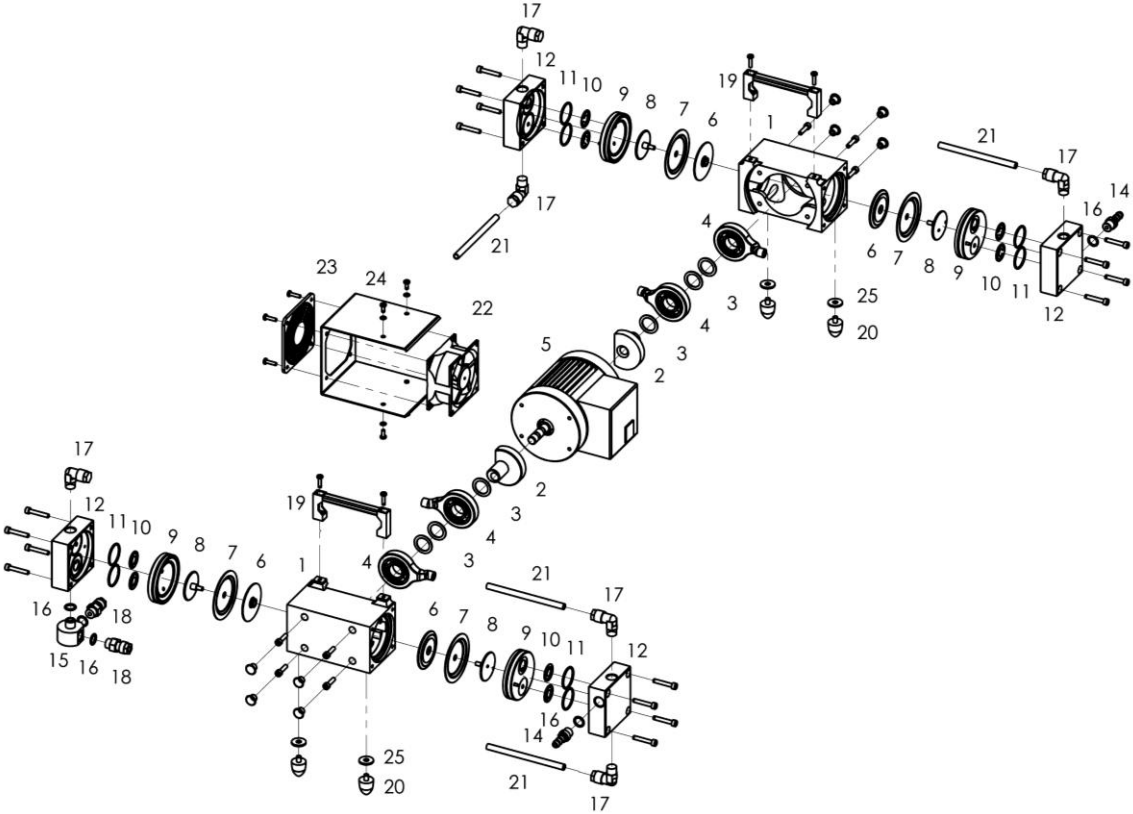

Fig. 6 Explosion view (MP 201 T)
2. Use the size 3 pin-type face wrench to tighten the pressure disc (9), the diaphragm (8) and the strain washer (7) with a torque of 5 - 6 Nm.
3. Bring the connecting rod (5) (see Fig. 6) and the diaphragm (8) into the central position.
4. Replace the pump head (6).
5. Insert the valves (5) and the o-rings (4).